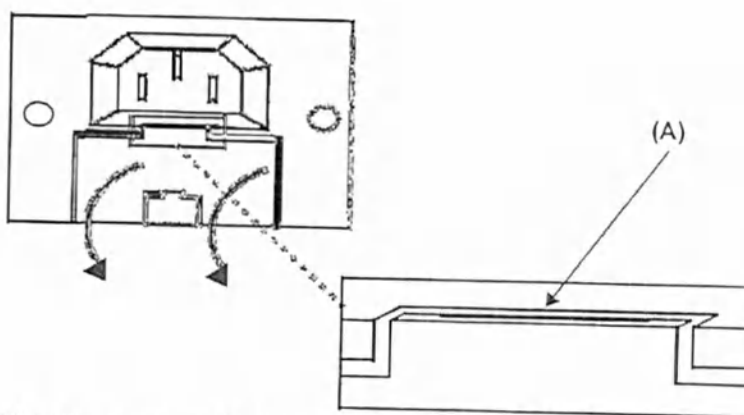

Fig. 29 - Opening the fuses houses
1. open the fuses housing slot as shown in Fig. 29: open the door of the fuses housing using a screwdriver as shown in figure.